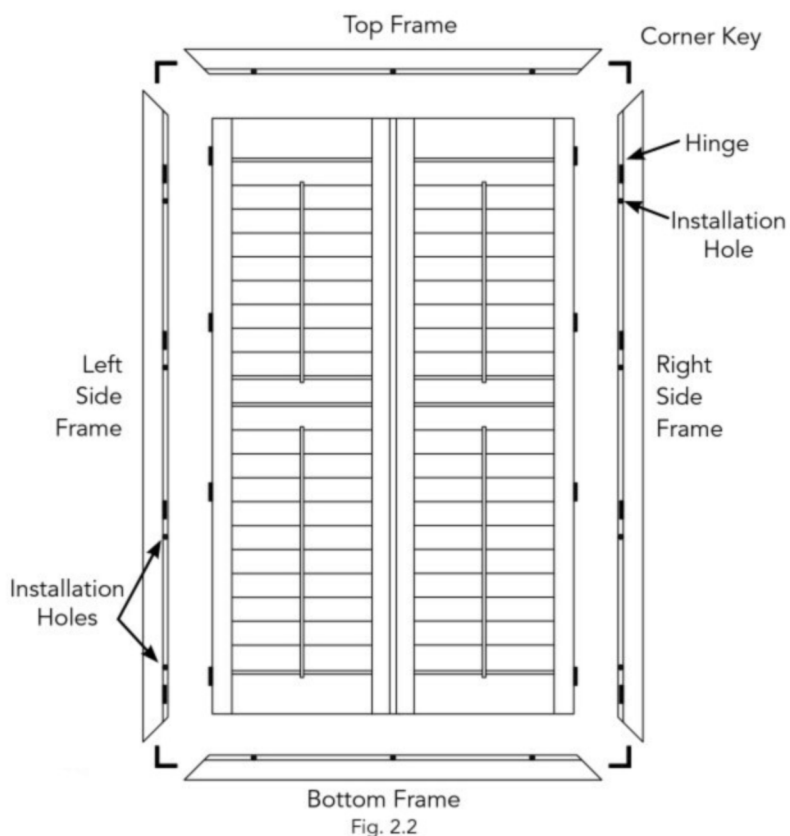

Fig. 2.2
- Installation holes are located just below each hinge on the side frames (except bottom hole is located just above the bottom hinge). Top and bottom frames should have evenly spaced holes no more than 16" apart. (See Fig. 2.2)